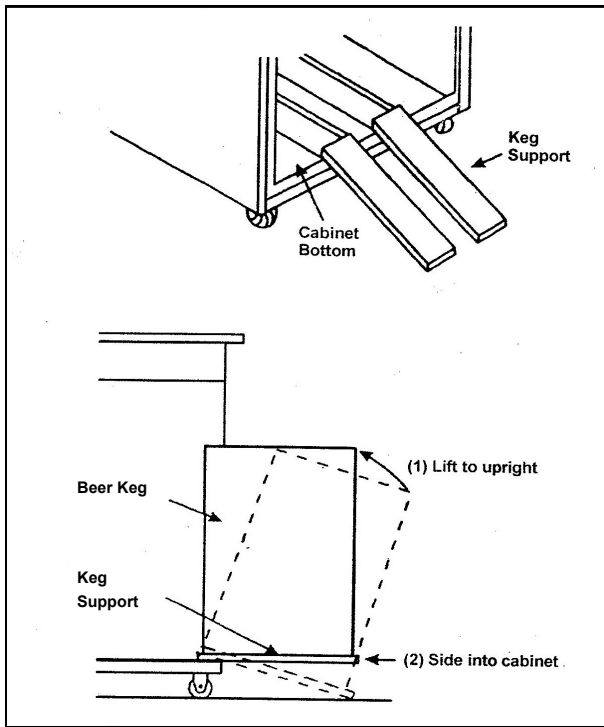

Fig. 3
- d. Make sure the keg is properly tapped, then open shutoff valve on CO₂ regulator. To install beer keg into cabinet follow the steps below (See Fig. 3).